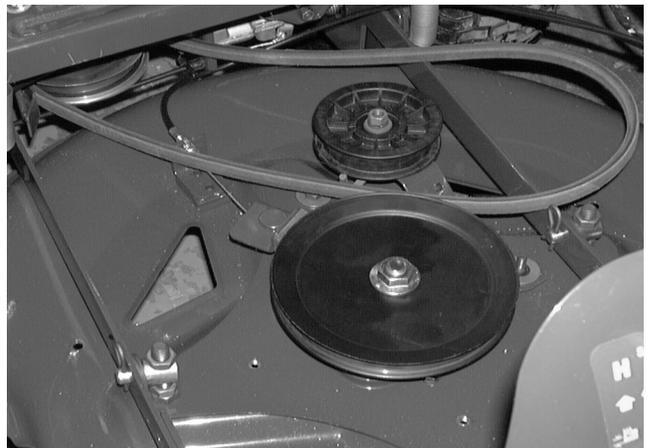

FIGURE 4.
- 10). Remove the deck belt from the flat idler pulley and the deck spindle pulley. See figure 4.